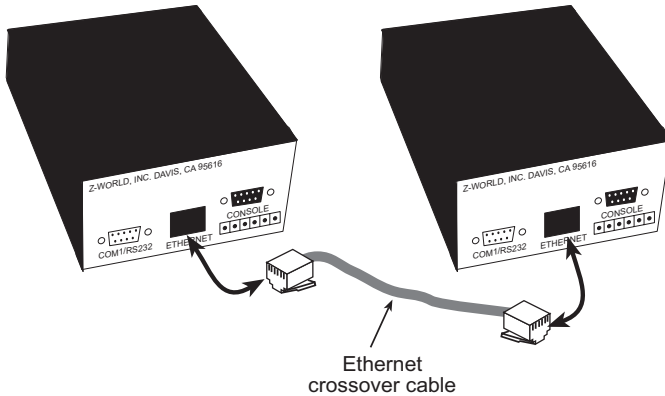

Figure B-1. Test Setup Using Crossover Cable
3. Connect the RJ-45 Ethernet ports on the EM1000s using the Ethernet crossover cable supplied with the Developer's Kit. Figure B-1 illustrates the setup.